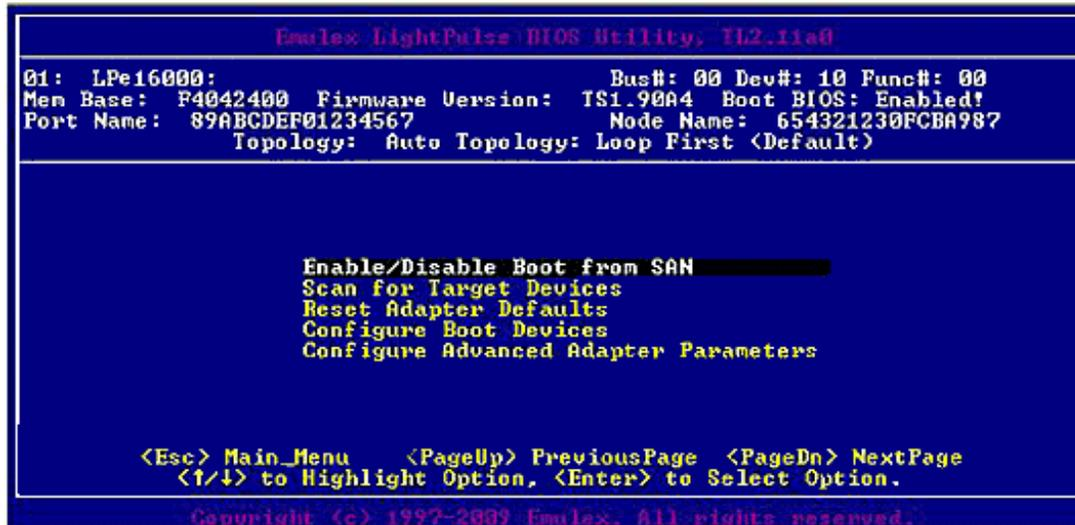

Figure 4-2 Main Configuration Menu
2. Select the adapter to configure and press <Enter>. The main configuration menu is displayed (Figure 4-2 on page 26).
1. From the main configuration menu (Figure 4-2 on page 26), select **Enable/Disable Boot from SAN** and press <Enter>.
1. On the main configuration menu (Figure 4-2 on page 26), select **Configure Boot Devices**.
1. From the main configuration menu (Figure 4-2 on page 26), select **Configure Advanced Adapter Parameters** and press <Enter>. The adapter configuration menu is displayed (Figure 4-9 on page 31).